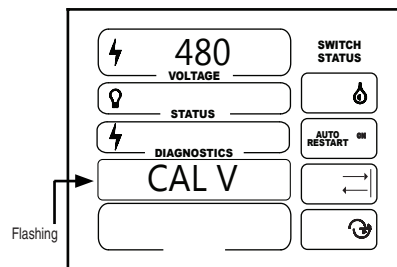

Figure 26-1
1. CAL V should be flashing. See figure 26-1.